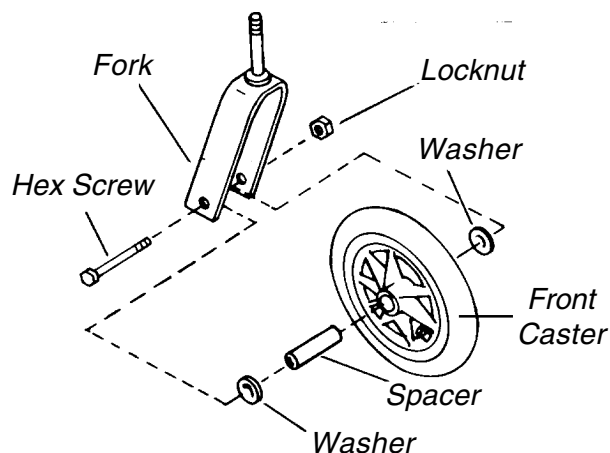

FIGURE 1 - REPLACING FRONT CASTERS
**REPLACING FRONT CASTERS (FIGURE 1)**